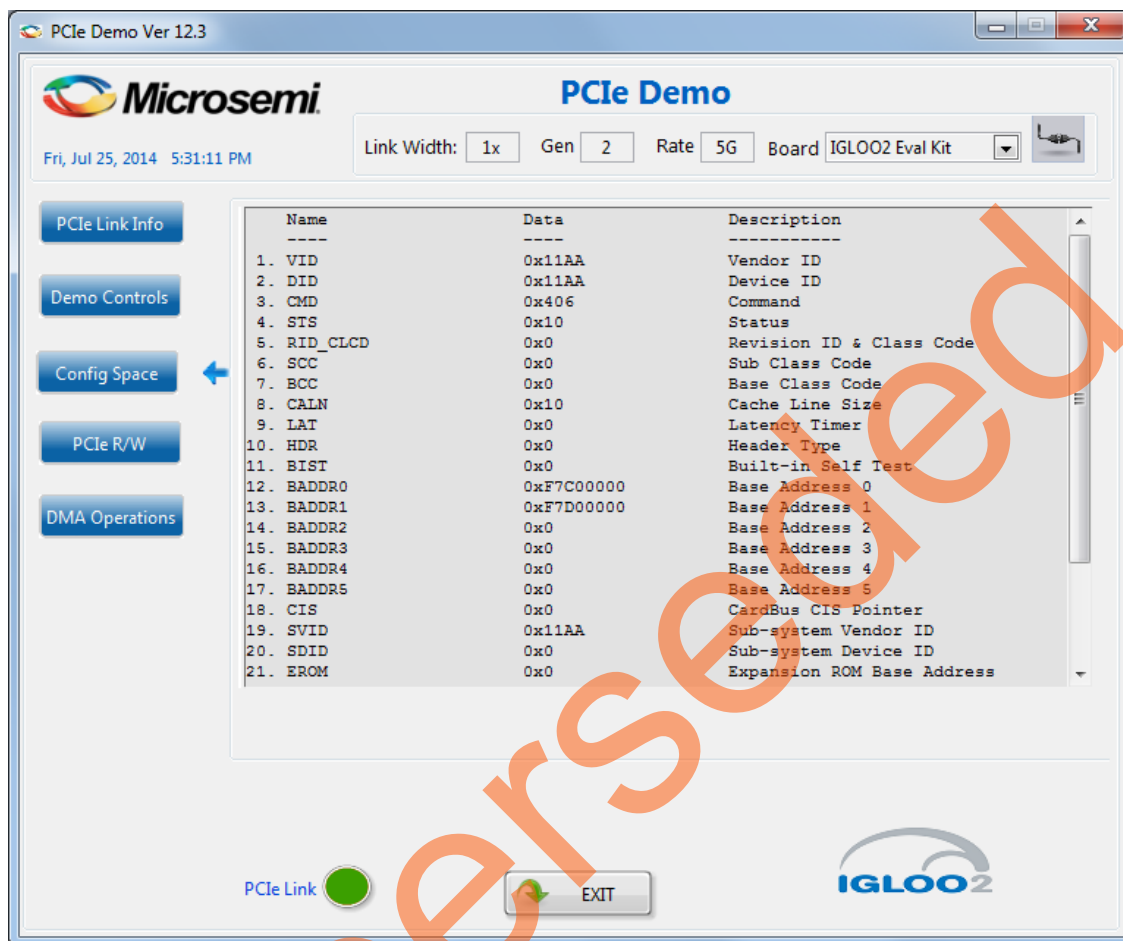

Figure 22 • PCIe Configuration Space
13. Click **Config Space** to view the details about the PCIe configuration space. Figure 22 shows the PCIe configuration space.